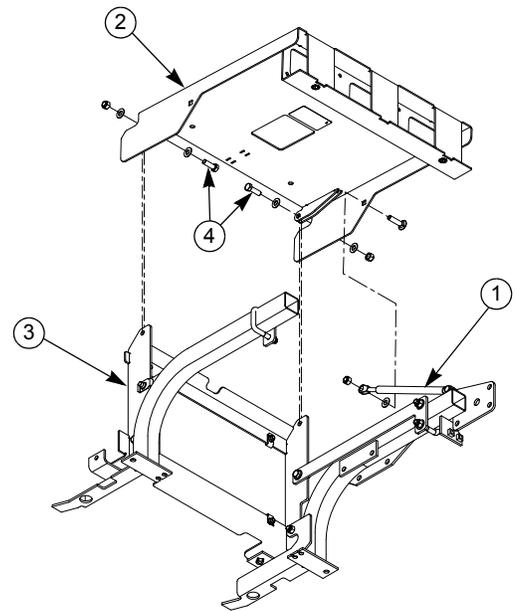

Figure 2-12
6. If the mower has a dampener ① connected to the seat pan ② it will need to be disconnected from the seat pan. Figure 2-12
7. Remove the seat pan ② from the front cover ③ by removing the pivot bolts ④. Figure 2-12
8. Remove the front cover ③. Figure 2-12